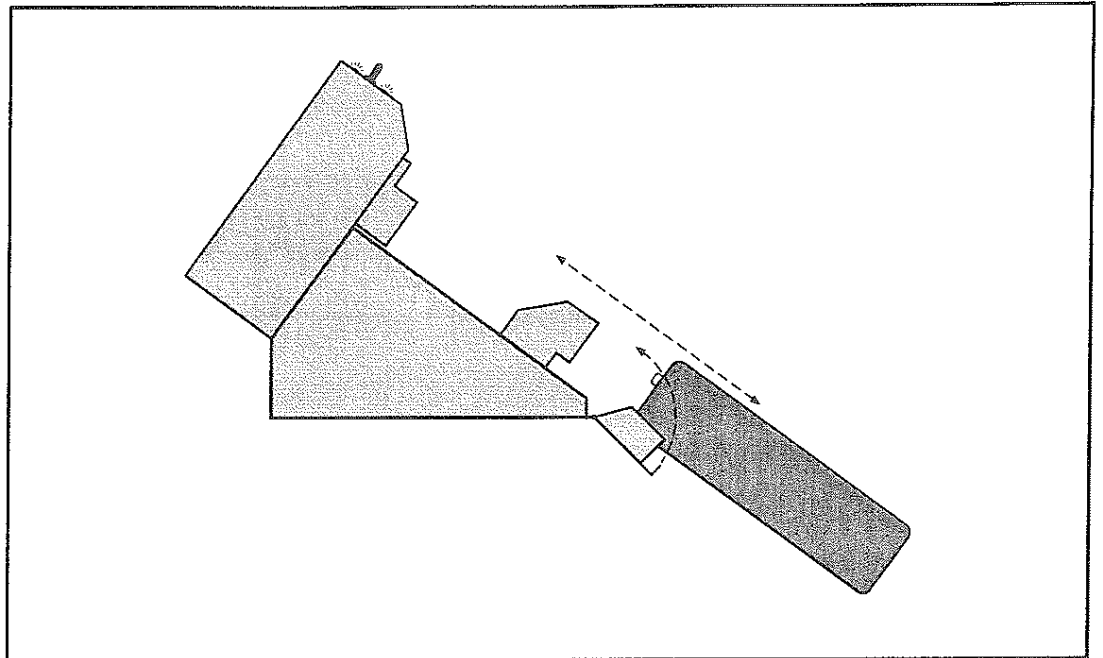

Figure 2-3
1. Release the latch on the left side of the console to open the hinged drop-down door so that the console will easily receive the FieldBook (see Figure 2-3).